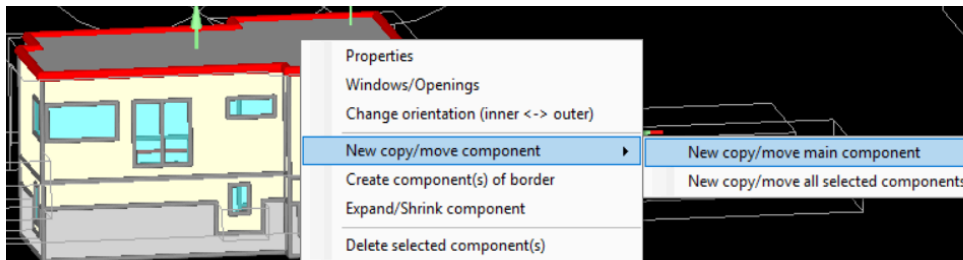

Figure 3.25. Copy/move main component.
1. Right click on the component that you would like to move. Select New copy/move component, then New copy/move main component (Figure 3.25).